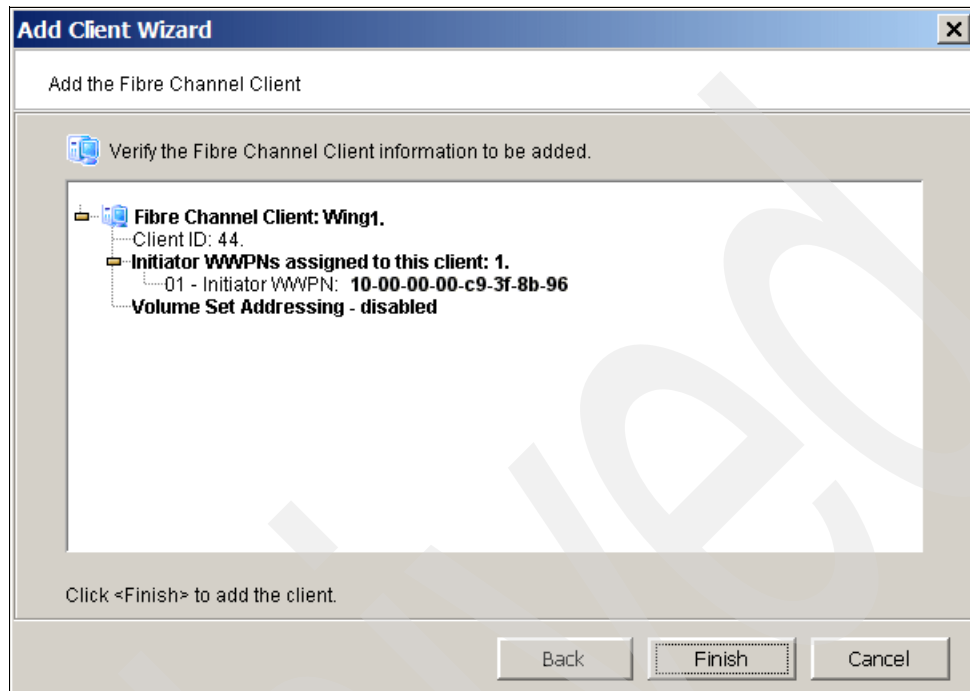

Figure 8-23 TS7500 - Check created SAN client
6. The *Add the Fibre Channel Client* panel (Figure 8-23) shows a summary of your selections. If the information is correct, click **Finish**, and your SAN client is added. If the information is not correct, click the **Back** button to make any necessary corrections.